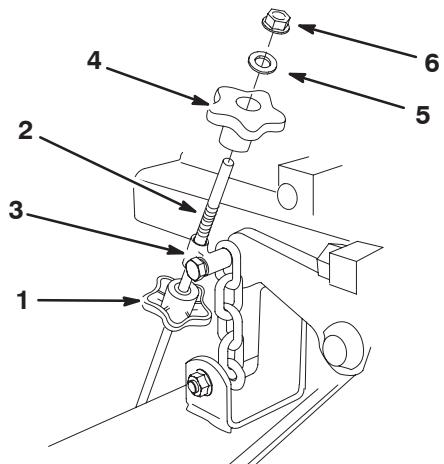

Figure 20
2. Guide the lift rod end with the inverted hub through the adjuster mount and install the another knob with the hub side down (Fig. 20).
1. Install one knob on the threaded end of the lift rod with the hub side up as shown in Figure 20. Thread the knob on all the way.